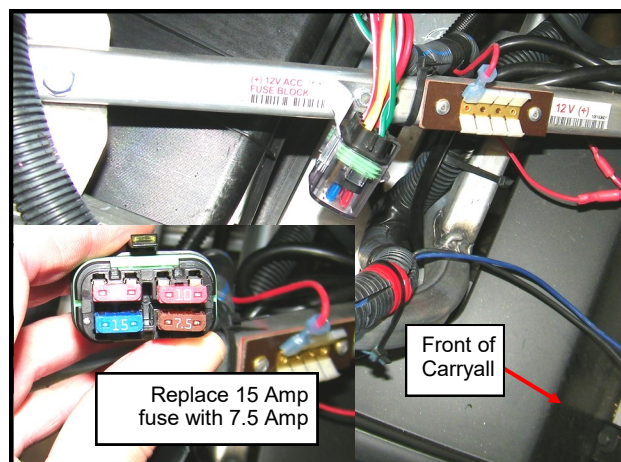

Figure 8.3: Front compartment Fuse Block (Electric vehicles only)
- 8.3 Locate the fuse block under the front hood. Remove the 10 Amp fuse and install the 7.5 Amp mini fuse. (**Figure 8.3**)